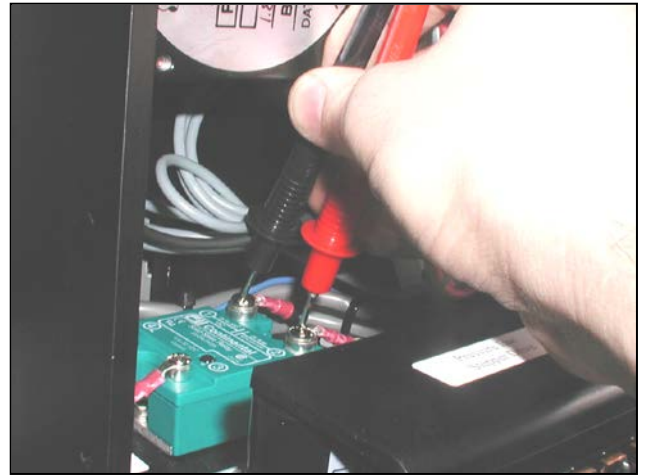

Figure 3-101. Testing 120VAC on Solid State Relay
2. Set your DVOM to a range capable of measuring 120 VAC. With one probe, contact pin number 1, with the other probe, contact pin number 2 (Figure 3-101). 120 VAC should be shown. If 0 VAC is shown, refer to the section on testing the Seal Wire Transformer.